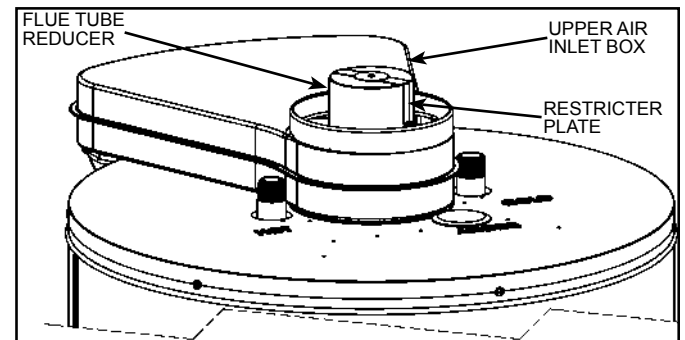
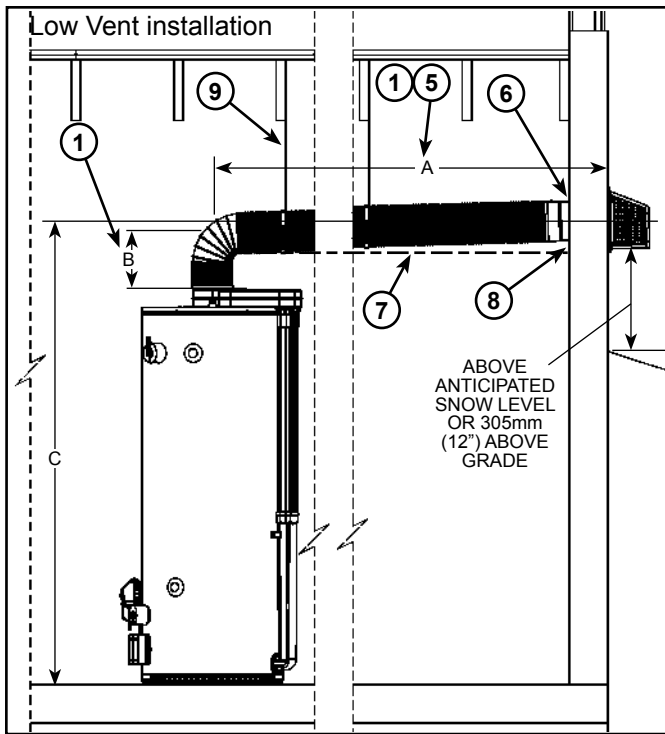
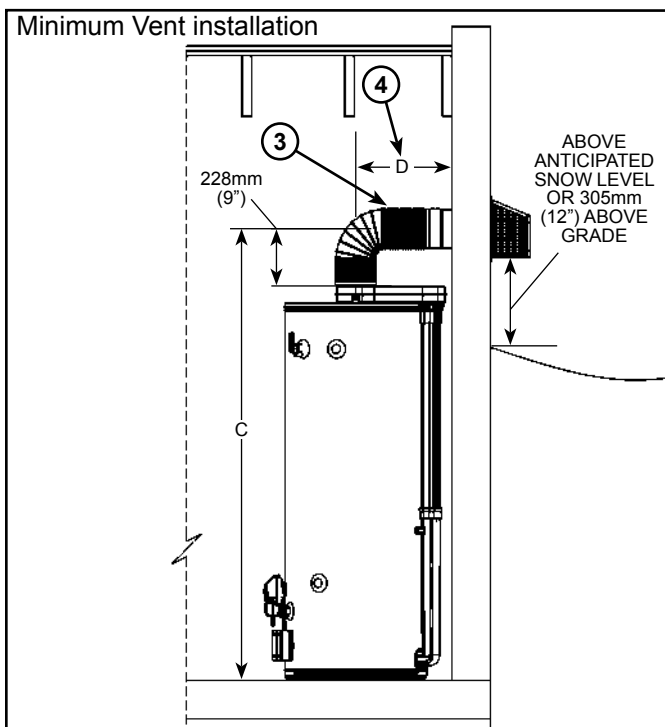
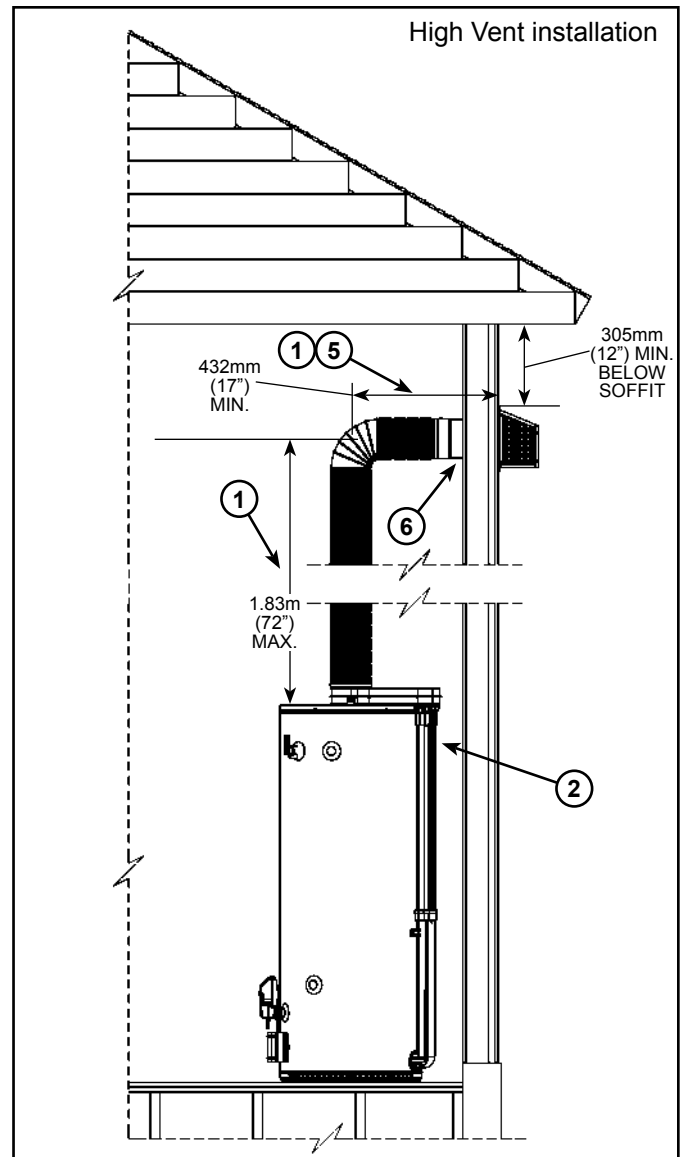

Figure 21
Figure 27
Figure 28
Figure 29
Figure 27 thru Figure 29 show various installation options.
* If the horizontal length of the venting is **less than 762mm (30")** the restrictor plate must be installed (see Figure 21, Figure 27 thru Figure 29).
The vent restrictor plate (see Figure 21) is required for short horizontal runs on low vent installations (see Figure 28) and high vent installations (see Figure 29).
For short horizontal vent runs (see Figure 28) place the restrictor plate over the flue tube reducer before connecting the inner corrugated tube to the flue tube reducer. DO NOT use the restrictor plate if the horizontal run is greater than 762mm (30").
For high vertical runs use the restrictor plate only when the vertical run of the venting above the heater is greater than 1.21m (48") (see Figure 29).
NOTES: (applies to Figure 27 thru Figure 29)